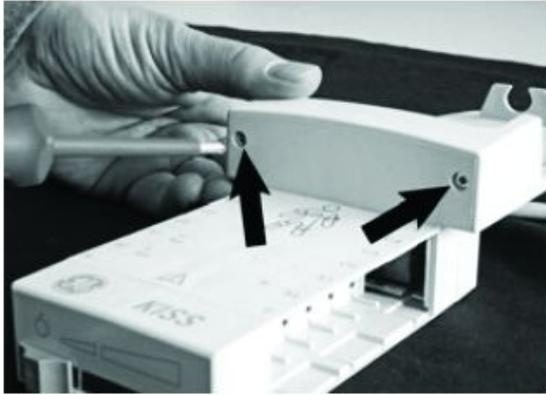
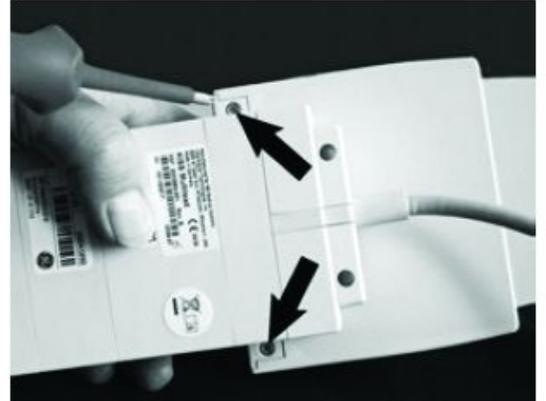
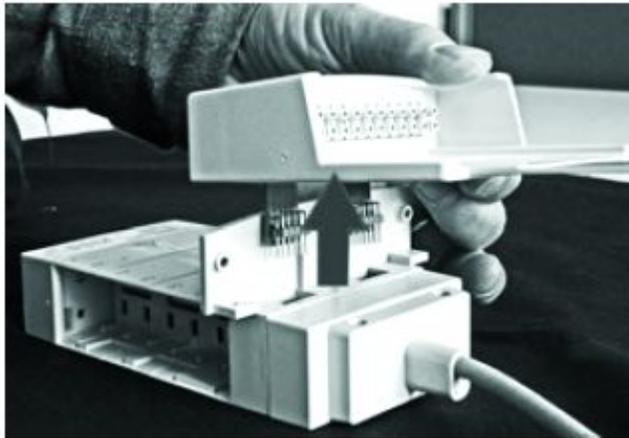

Figure 1
Figure 2
Figure 3
- Remove all electrode leads from the distributor block and loosen the screws as shown on figure 1 and figure 2.
- Slide the two locking plates (A) into the distributor block (see figure 11). Carefully connect the CAM-14 mounting unit (see figure 3) to the distributor block and tighten the four screws (see figure 1 and figure 2). Connect all electrode leads to the distributor.